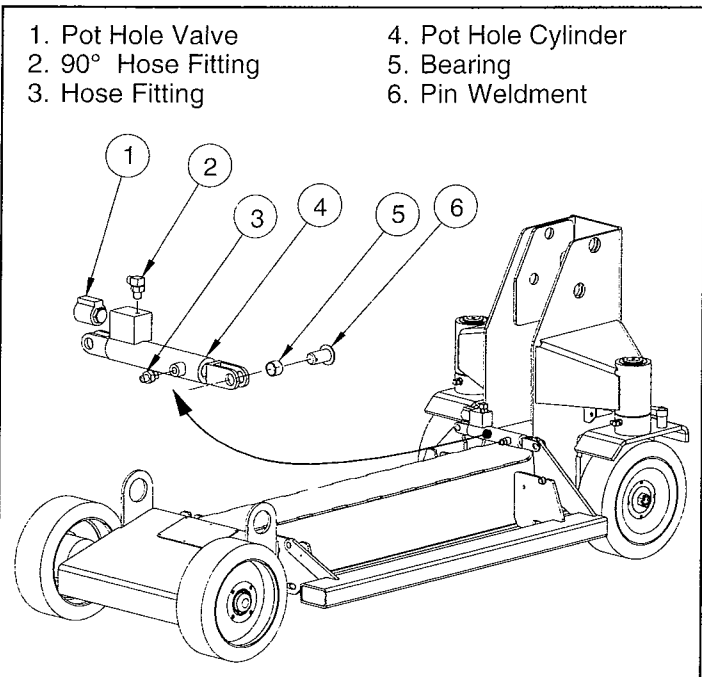

Figure 3-18: Pothole Cylinder Installation
3.14 Pot Hole Cylinder (Figure 3-18)